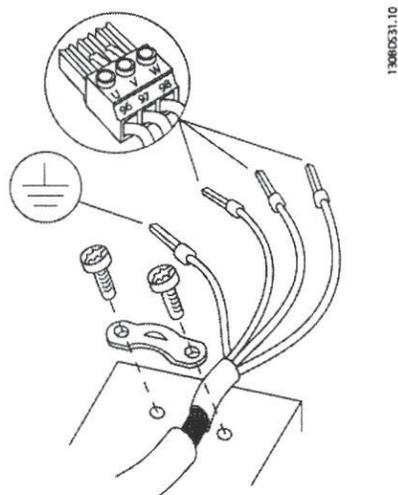
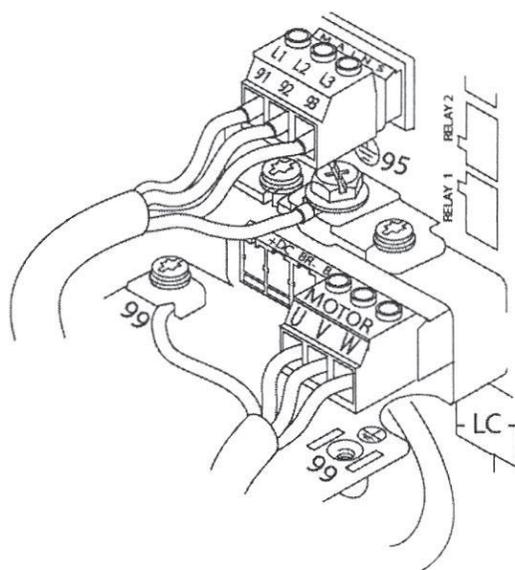

Figure 4.5 Motor Connection
Figure 4.6 Example of Motor, Line Power and Ground Wiring
- Establish electrical contact between cable shield and adjustable frequency drive enclosure by using metal cable connectors or by using the clamps provided on the equipment (see *Figure 4.5* and *Figure 4.6*).
- Connect ground wire to the nearest grounding terminal in accordance with grounding instructions provided in *chapter 4.3 Grounding*, see *Figure 4.5*.
- Connect the 3-phase motor wiring to terminals 96 (U), 97 (V), and 98 (W), see *Figure 4.5*.
Figure 4.6 represents line power input, motor, and grounding for basic adjustable frequency drives. Actual configurations vary with unit types and optional equipment.
1. Connect 3-phase AC input power wiring to terminals L1, L2, and L3 (see *Figure 4.6*).